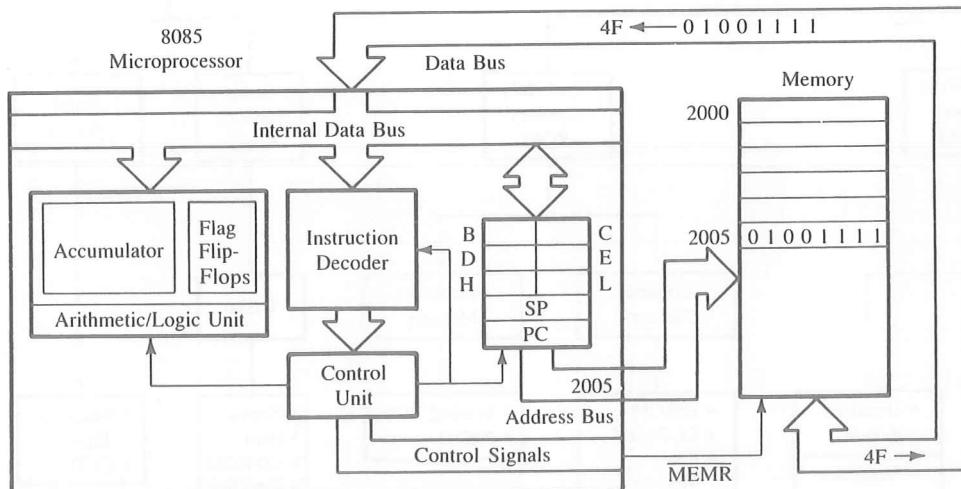

FIGURE 3.12
1. The program counter places the 16-bit address 2005H of the memory location on the address bus (Figure 3.12).
Figure 3.12 shows how the 8085 MPU fetches the instruction using the address, the data, and the control buses. Figure 3.12 is similar to Figure 3.2, Memory Read operation, except that Figure 3.12 shows additional details.